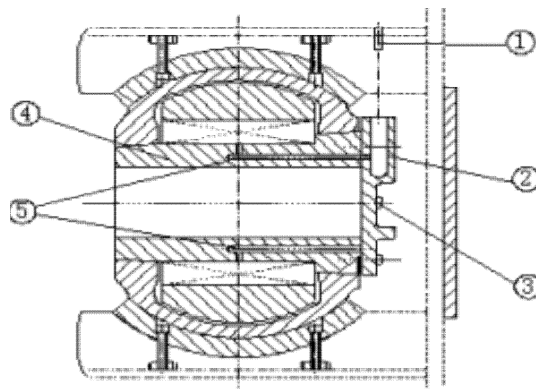

Fig. 16 Crosshead Lubricating Oil Passage
Flow into the oil passage of crosshead bearing from the top plate of crosshead is detailed in Fig. 16. The lubricating oil will accumulate in the chamber on top of crosshead, and will flow into the baffle of crosshead by nipple (1) and into the oil passage (5) to lubricate the crosshead pin bearing. As shown in Fig. 16, the cross pin has two oil passages (5) that allow the crosshead pinto rotate without having to worry about the alignment of the oil hole, so that the crosshead can be loaded from either direction during installation.